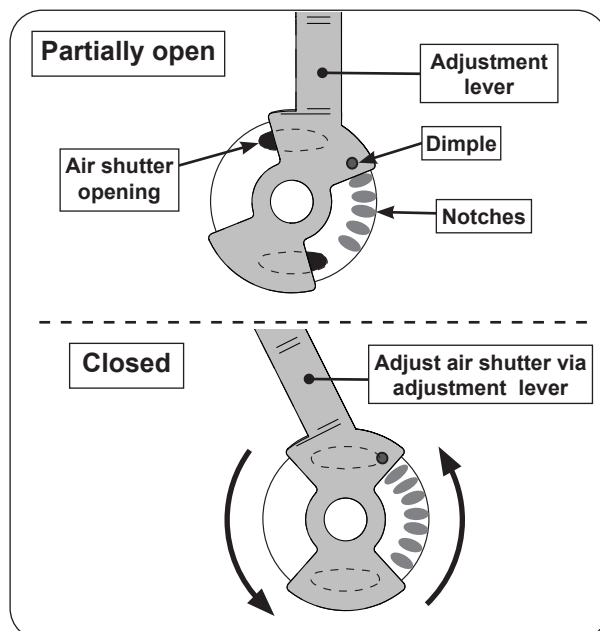

Fig. 42-2 Main burner air shutter adjustment
Main burner air shutter adjustment levers are easily accessed by removing the top panel (when cool). See the TOP PANEL REMOVAL section for details. The air shutters are controlled by the adjustment levers at the front of the burners (see PARTS LIST and Fig. 42-2). Each air shutter has a small dimple that allows it to lock into notches in the burner face. This prevents the air shutter from moving. See Fig. 42-2.
3. Begin closing the air shutters **with the adjustment levers** until the flames appear to burn while touching the burner ports (Fig. 42-2). The air shutters have a small dimple that allows it to lock into notches in the burner face. This prevents the air shutters from moving.